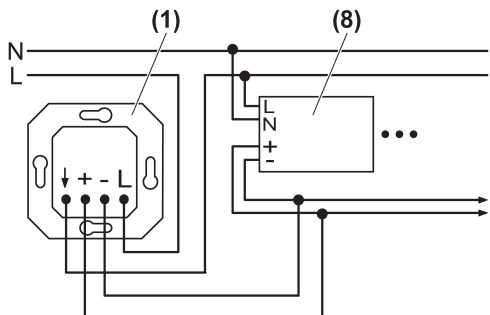
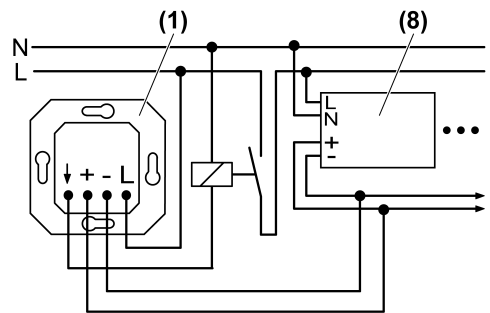
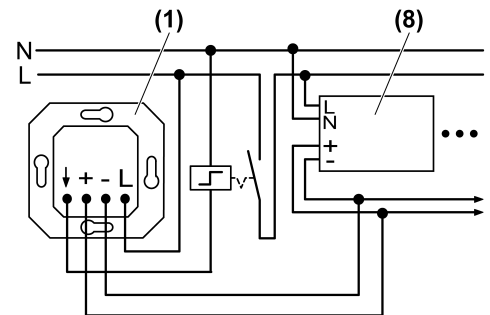
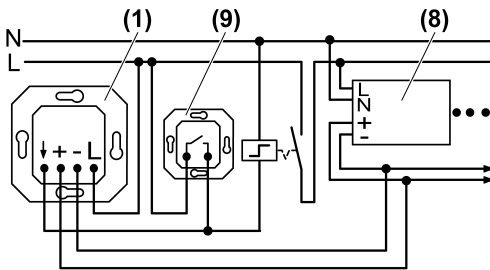

Figure 2: Connection diagram for potentiometer with switching function
Figure 3: Connection diagram for potentiometer with switching function and contactor
Figure 4: Connection diagram for potentiometer with push-button function
Figure 5: Connection diagram for potentiometer with push-button function and extension
- Connect electronic potentiometer with switching function according to connection diagram (Figure 2) or (Figure 3). Connect electronic potentiometer with push-button function according to connection diagram (Figure 4) or (Figure 5).